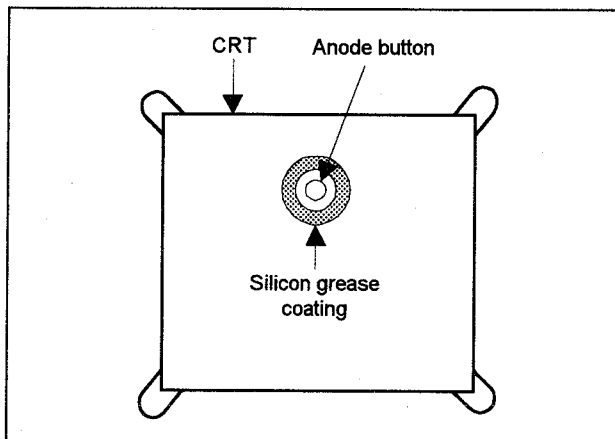

Fig. 4
- Subsequent to replacement of the CRT and HV transformer or repair of the anode cap, etc. by dismounting them, be sure to coat silicon grease for electrical insulation as shown in Fig.4. Wipe around the anode button with clean and dry cloth. (Fig.4)